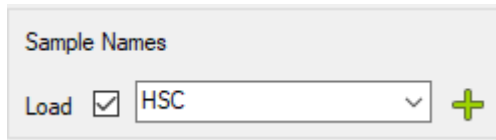

Figure 17 Addition of HSC sample name on the CFX Maestro Plate Editor window
- b In the field under **Sample Names**, type **HSC**, as shown in **Figure 17**. Press **Enter**.